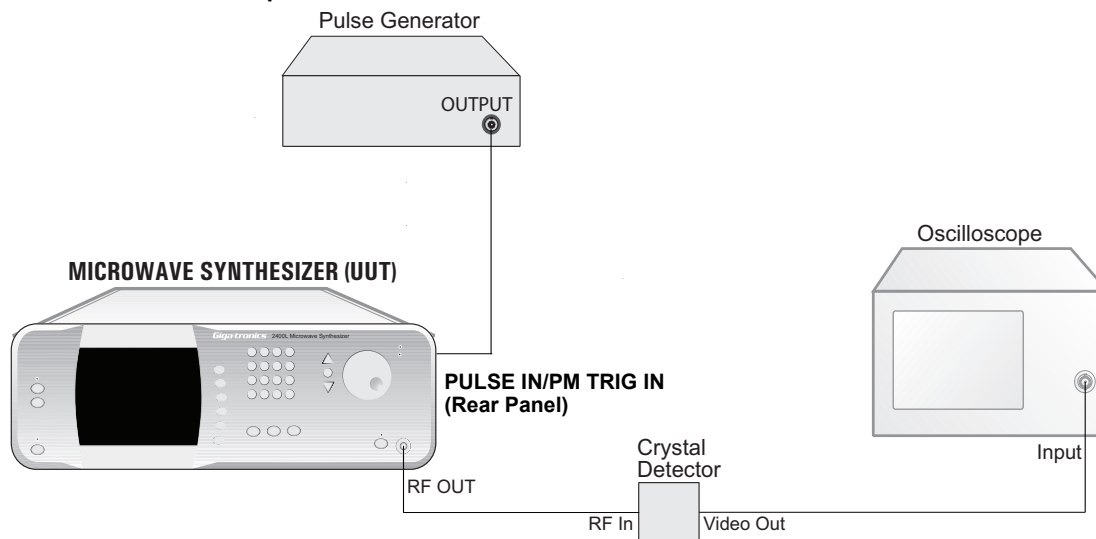

Figure 4-7: Pulse Modulation Rise and Fall Time Test
1. Connect the test equipment and UUT as shown in Figure 4-7.